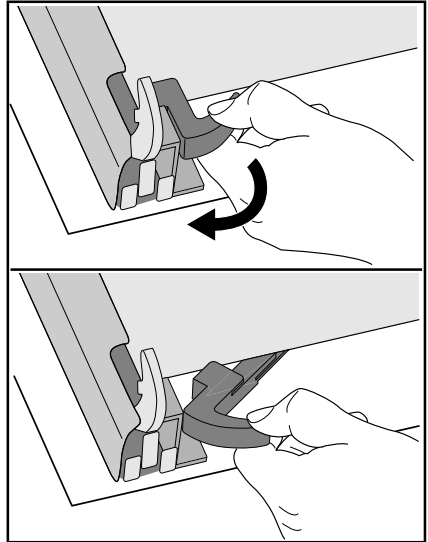

Fig. 27
7. Release the locking system to remove the internal panes of glass (Fig. 27).